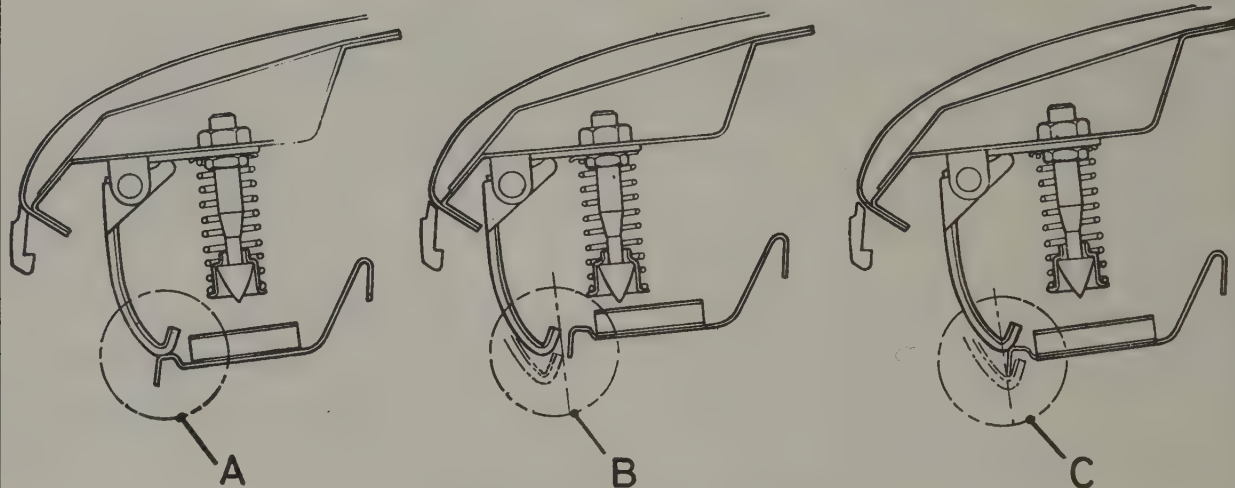

Fig. 12.32. The bonnet safety catch positions
- 4 Refer to the accompanying illustrations (Fig.12.32) and adjust if necessary by loosening the fixing bolts and moving the catch backwards or forwards accordingly to achieve the correct position and then retighten the fixings.